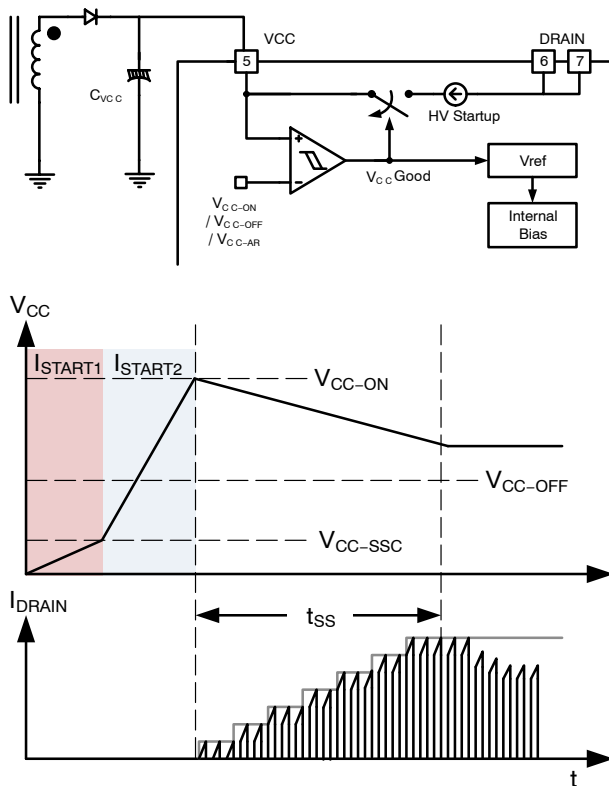

Figure 31. HV Startup Circuit and Soft Start
At startup, an internal high-voltage(HV) startup circuit connecting the DRAIN pin supplies a constant startup current to internal circuits while charging the rest of current the external capacitor C_{VCC} as shown in Figure 31. While V_{CC} is lower than V_{CC-SSC} , the startup charging current is as small as I_{START1} to avoid NCP1118x damage when V_{CC} is shorted to the ground. Whereas, once V_{CC} exceeds V_{CC-SSC} , the startup charging current becomes I_{START2} , which allows being fast startup.